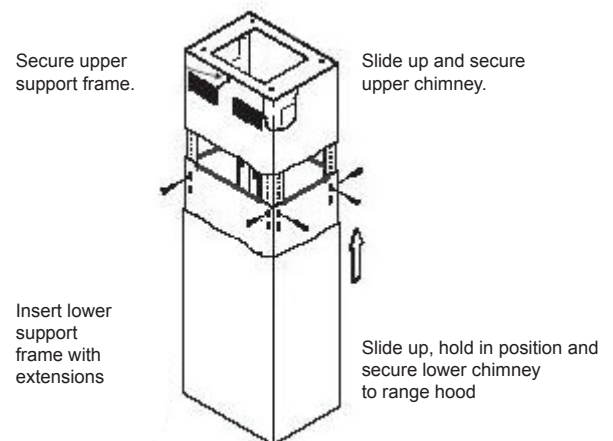

Figure 4
8. Slide the lower chimney cover around the lower support frame and around the upper chimney cover. Have second person to hold it in position. (See Figure 4).